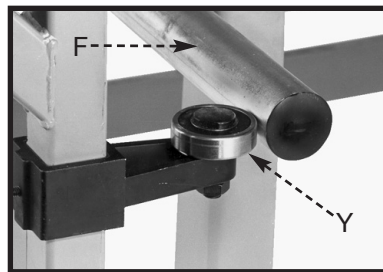

Fig. 37
- Pull the sliding table toward the front of the saw until the lower bearing (Y) Fig. 37 is near the end of the lower rail (F).